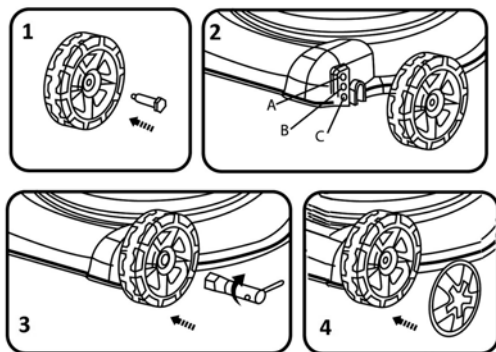

Fig. 3
- ☼ Slide the threaded pin (Fig. 3, point 1) through the wheel
- ☼ Select the required mowing height and screw the wheel into the appropriate hole (Fig 3, point 2+3)
- ☼ Put on the wheel cover (Fig. 3, point 4).